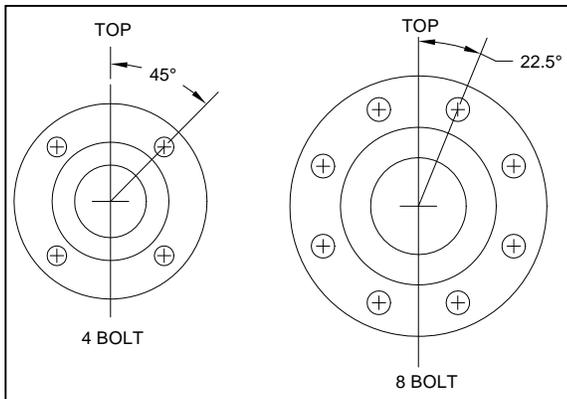

Figure 3. Bolt Hole Location
- Weld flanges to existing pipe. Make certain that the pipe flanges and Accelabar flanges are the same NPS size and pressure rating. Bolt hole location must be as shown in Figure 3 (does not show 12 and 20 bolt patterns; orientation is typical).